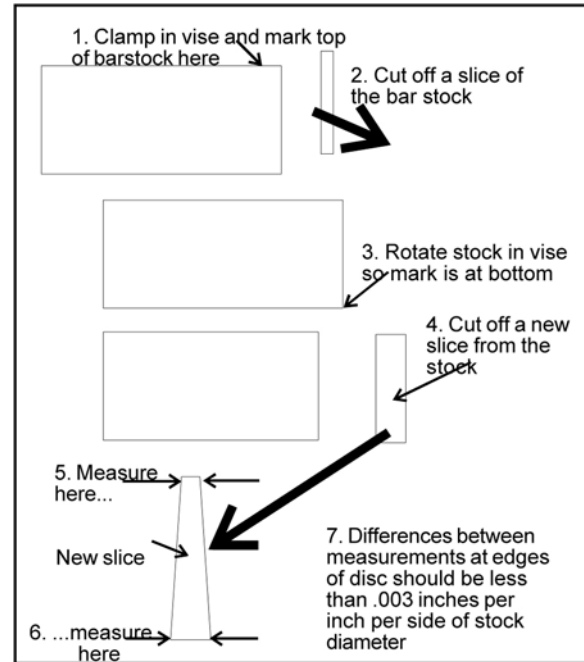

Figure 14: Cutting a test disc
1. With the bar stock securely clamped in the vise, make a cut through the bar stock. (See Figure 14.)